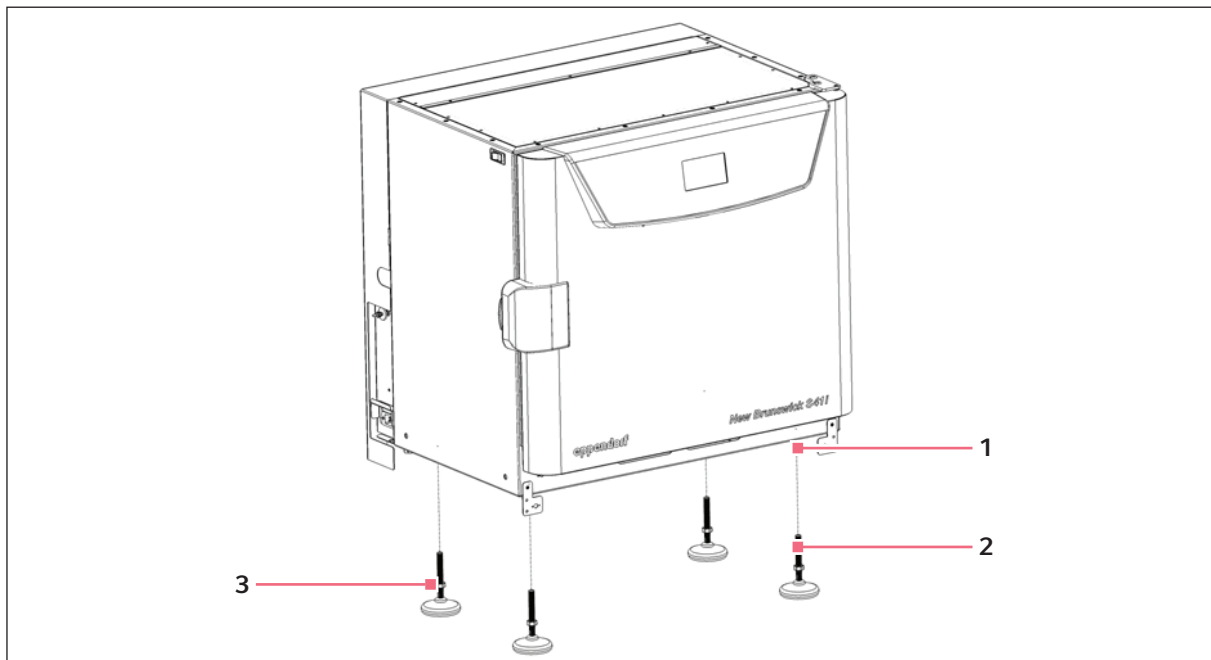

Fig. 4-1: Adjustable feet
- ▶ Place the incubator shaker in the working position, on a level floor capable of bearing its weight. You may need to rotate the incubator shaker feet to raise them, in order to rest the incubator shaker on its castors to be moved more easily (see Fig. 4-1 on p. 19).